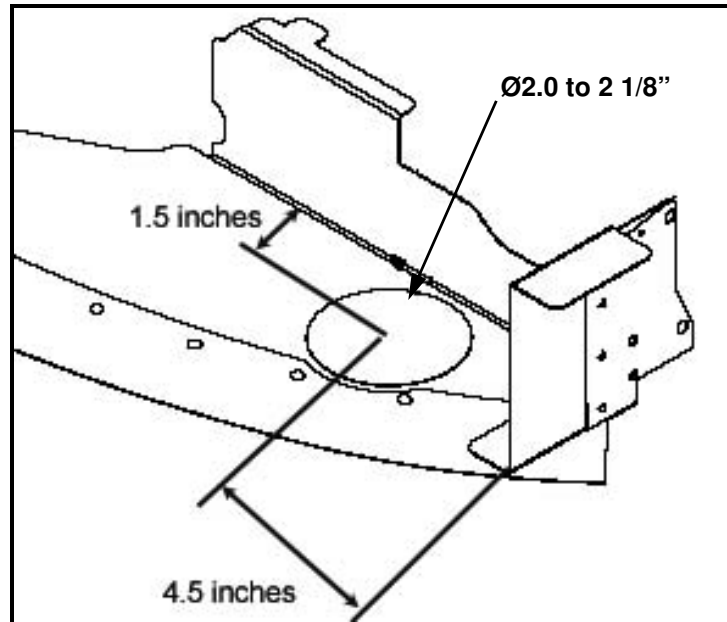

FIGURE 7: Cabin Heat Intake Location on Front Baffle
9. Cut a 2" to 2 1/8" hole in left-hand side of front baffle in accordance with Figure 7, location can be +/- .5 inches to clear existing rivets. Rivets on front edge of baffle may need to be removed to fit Cabin Heat Intake Assembly under Silicone Baffle. (See Figure 7)